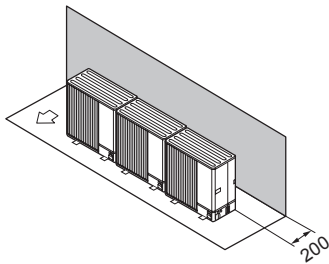

Fig. 4-30
- ① Obstacles at rear only (Fig. 4-30)